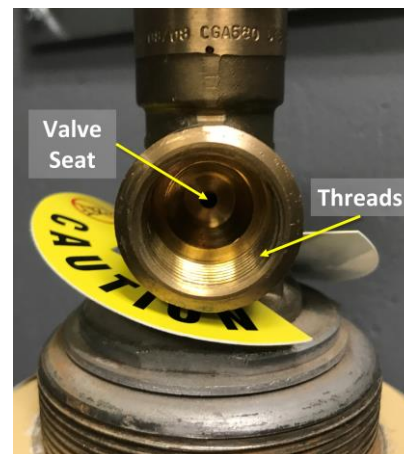
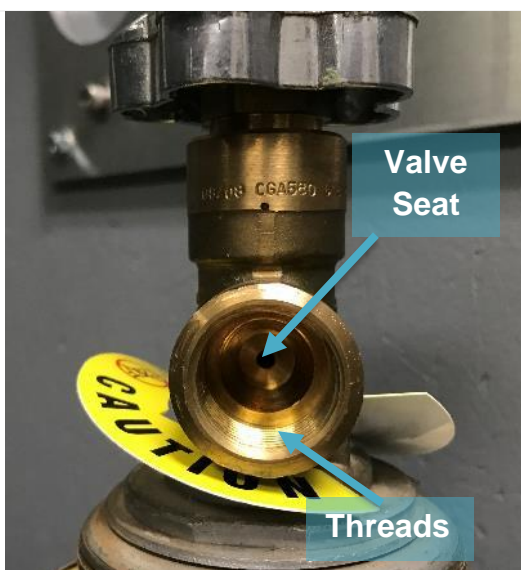

Figure 17. Inspect Valve Seat.
Figure 26. Inspect the Cylinder Valve Seat Fitting.
9. Remove the cylinder valve protection cap. Inspect the valve seat (**Figure 17**) inside the cylinder's valve (see **Figure 26**) for damage or contamination. Clean contamination with a lint free microfiber cloth. If damage is present or unable to remove/clean contamination, replace the cylinder with another cylinder, if available, or stop and submit an incident ticket in ServiceNow.
STEP 7 | Inspect associated seat fitting inside the valve for damage (**Figure 26**).